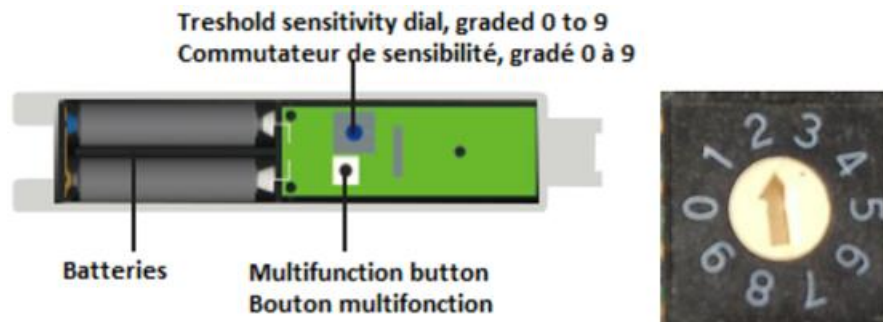

Figure 22
3. Based on the result (too sensitive/not sensitive enough), you must modify the factory base settings on the threshold sensitivity dial (see figure 22).